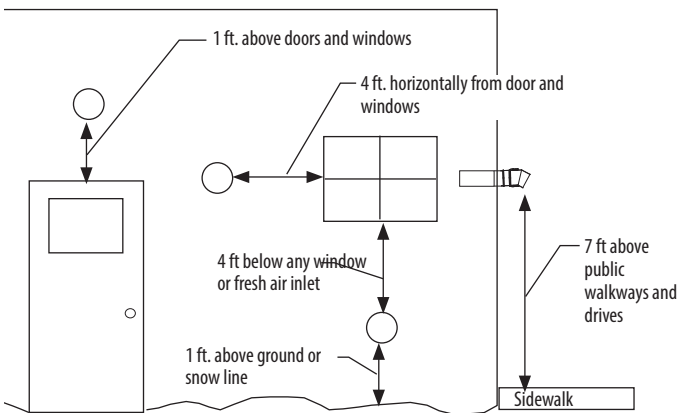

Figure 1 - Horizontal Termination Requirements
- When venting through a sidewall, terminate the system not less than 12" (.3m) above the ground and above the snow line in geographical areas where snow accumulates. The termination area must be kept clear of snow and ice at all times. See Figure 1.
- Terminate the system at least 7' (2.1m) above a public walkway or driveway, no less than 6' (1.8m) from the combustion air intake of any appliance or 3' (.9m) from any other building opening, gas utility meter, service regulator or the like. Less distance is permitted if specified in the appliance's installation instructions. It also shall terminate at least 3' (.9m) above any forced air inlet within 10' (3.1m) and shall terminate at least 4' (1.2m) below, 4' horizontally from, or 1' (.3m) above any door, window, or gravity air inlet into any building as provided in the National Fuel Gas Code ANSI Z223.1 and NFPA 54. See Figure 1. Proper judgment may require greater distances depending on the side of the equipment installed or to allow for snow drifting or falling from overhead roofs or trees. The termination should be far enough away from trees, shrubs, or decorative items to prevent damage.